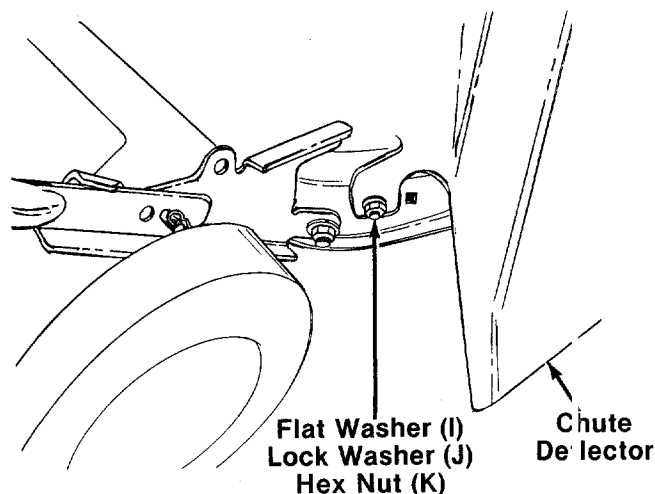

FIGURE 14.
6. Secure the back of the deflector in the same manner. See figure 14.